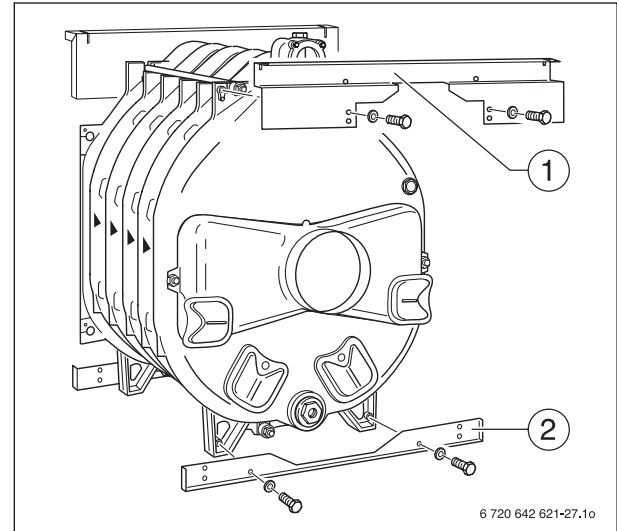

Fig. 33 Fitting the back profile rails
- ▶ Fasten top rear crosswise tie bar (Fig. 33, [1]) to the cast lugs then to rear section with machine screws (M 8 x 15). The folded edge of the upper crosswise tie bar must point **towards the front**.
- ▶ Screw the bottom crosswise tie bar (Fig. 33, [2]) to the feet of the rear section with two machine screws (M 8 x 15). The folded edge of the bottom crosswise tie bar must point towards the back.